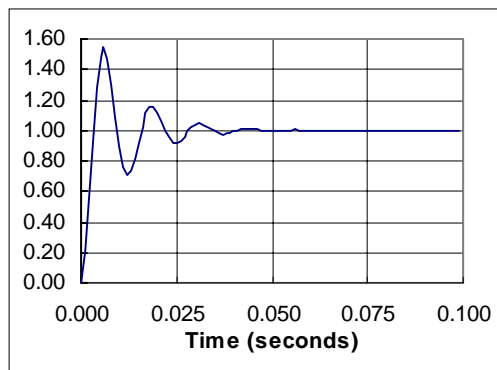

Figure 3.5 Ringing
When you are tuning the RO(L) you may tune it so that the response rings. Ringing is caused when you attempt to tune the RO(L) for too rapid response. Normally, the best solution is to reduce the bandwidth. The graph in Figure 3.5 shows a system that rings.